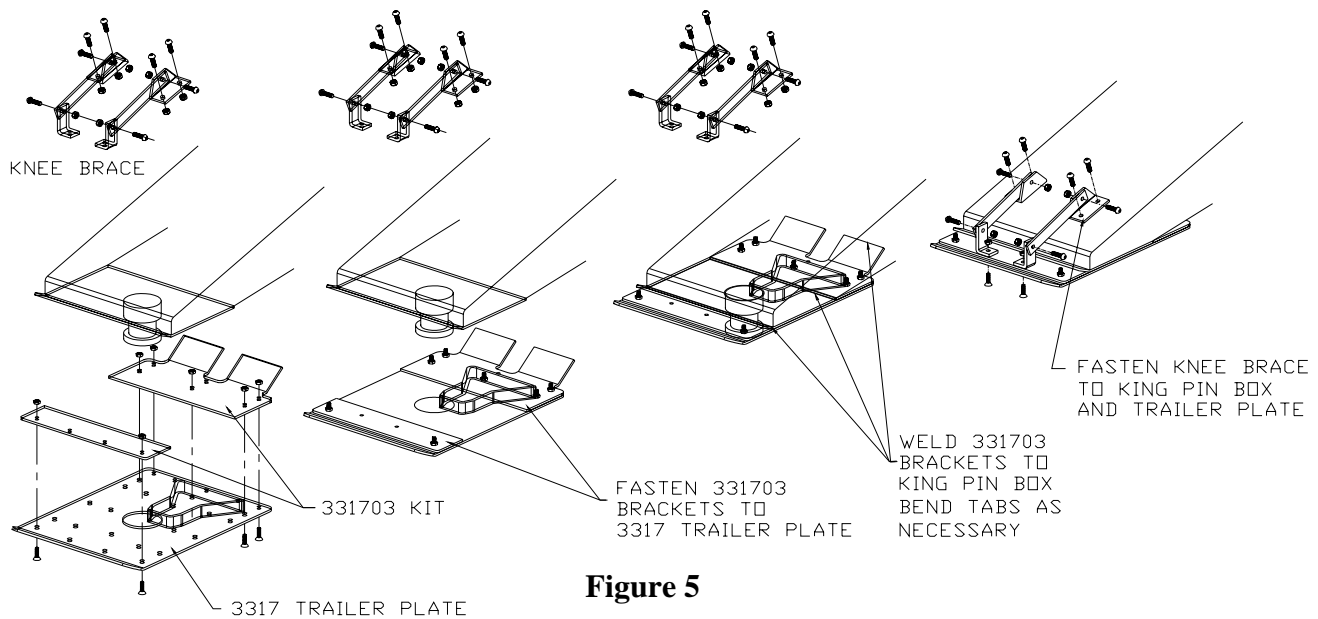

Figure 5
### **FOR KING PIN BOXES THAT ARE SHORTER FRONT TO BACK: (Figure 5)**
1. Place the Trailer Plate {J2} over the king pin, with the guide wedge towards the rear of the trailer (wedge facing down), and measure the distance from the front and rear of the king pin box to the respective edges of the Trailer Plate {J2} (to the bend of the Trailer Plate {J2} in the front). Referring to Figure 5, fashion two plates, 3/16" to 1/4" thick, that will cover the holes of the Trailer Plate {J2} showing in front and rear of the king pin box.
6. See Figure 5 on the next page for diagram and special notes.